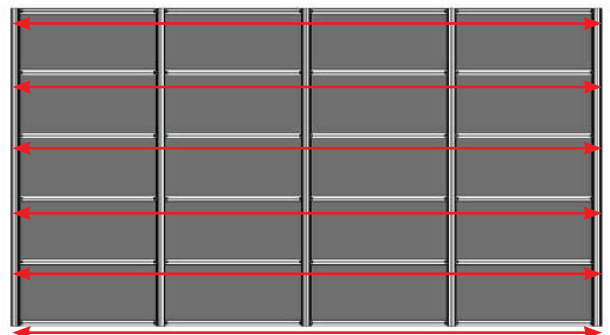

Figure 28
5.6.6 After placing an array of Gutter as shown in Figure 28, make sure the Gutters in each row are on the same line.